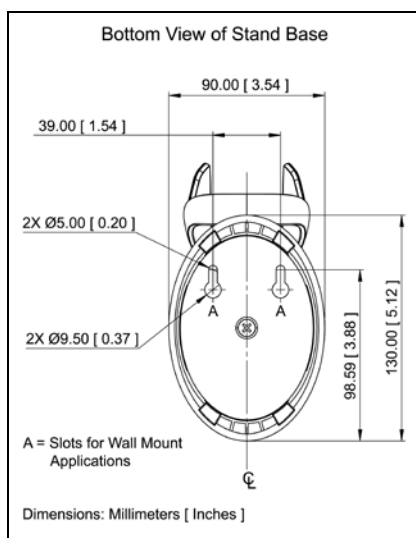

Figure 5.
3. Locate the two slots marked as "A" on the stand base in *Figure 5*.